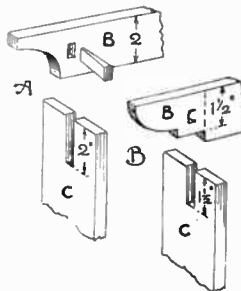
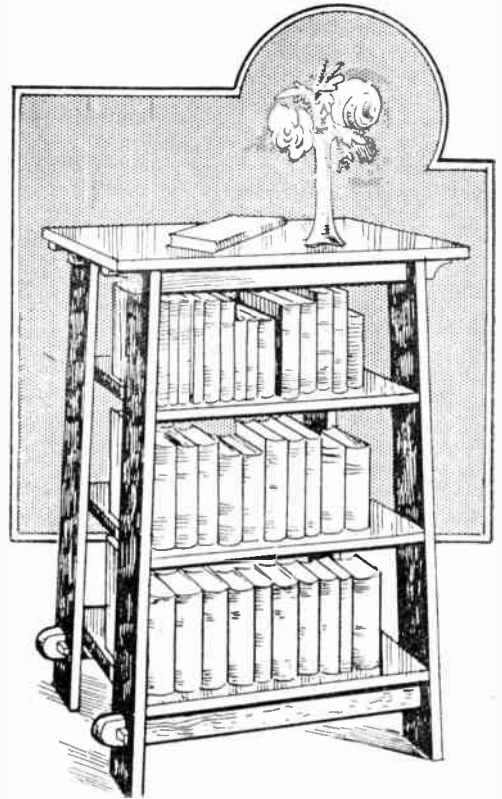

Fig. 3—Details of joints
Fig. 1—An attractive and useful piece of furniture
At (A) the rails (B) are simply let into the tops of (C) their whole width, while at (B), in the same figure, a shoulder is formed on the rail (B) which comes hard up against the uprights, making for a good tight joint when the wedges are inserted and knocked in. The lower mortises are cut 2½ins. up from the extreme ends of the uprights, and are 2ins. long by, of course, ½in. wide. The slots at the top of the uprights are 2ins. deep by ½in. wide, excepting those shown in method (B), Fig. 3, which are 1½ins. deep.
The rails (G) have rounded ends as shown, cut carefully to a semi-circle with the fretsaw at a centre distance of 1½ins. in from each end. There are small openings cut, as seen in Fig. 3, to take the shallow-cut wedges which pull the joints well together after they are glued up. The openings for the wedges in rail (G) are clearly seen in Fig. 1—front view. In Fig. 3, at method (A) the wedge is seen just before entering its cut-out hole.